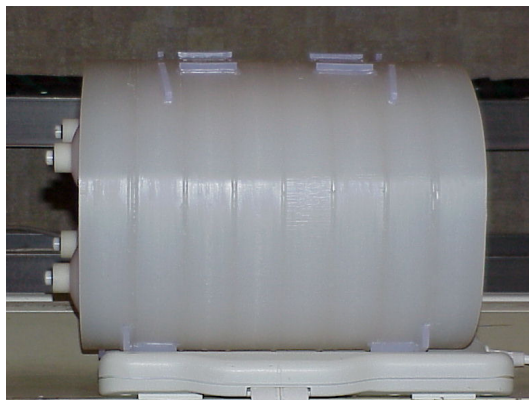

Figure 6: Positioning the phantom on the coil.
2. Place the coil on the patient table. Position the phantom set on the coil without the pad, lining up the pegs on the phantom to the holes in the posterior section of the coil (see *Figure 6*).